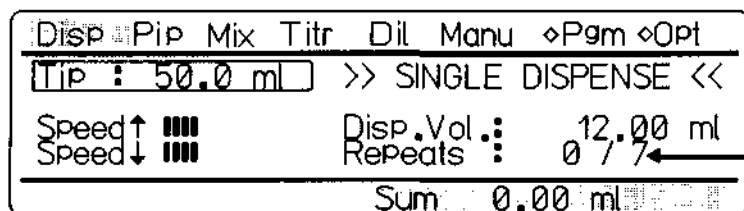

Fig. 5: EDOS display,
- the function can be repeated as often as desired and the number of dispensings executed is displayed next to the 0 (**Single Dispense**, **Pip** and **Dil** functions, see Fig. 5),
On the bright command line, only the **field of the chosen function is dark** (see Fig. 5).